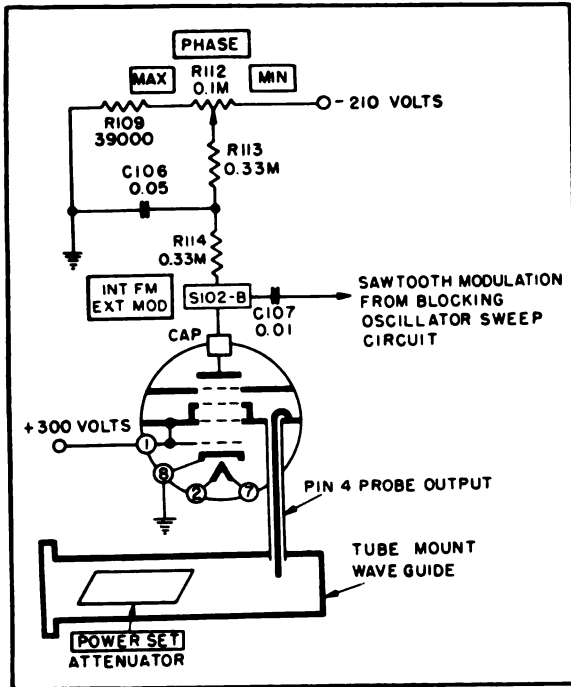

Figure 2-15. Test-Oscillator Circuit—
(3) TEST OSCILLATOR CIRCUIT (figure 2-15).